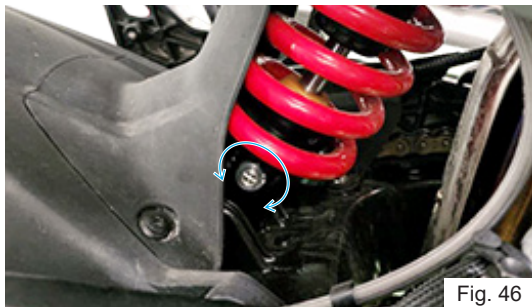

Fig. 46
- To increase the damping turn the adjuster screw clockwise and to reduce the damping turn the adjuster screw in anti-clockwise direction as shown figure (ref. Fig. 46).